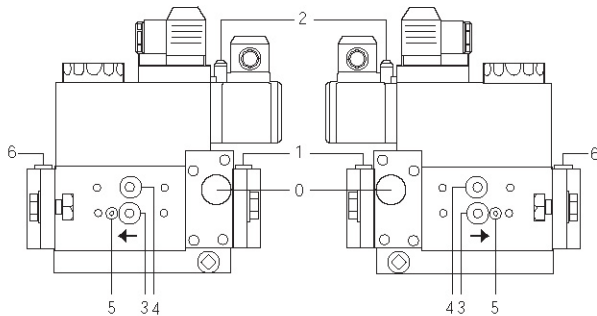
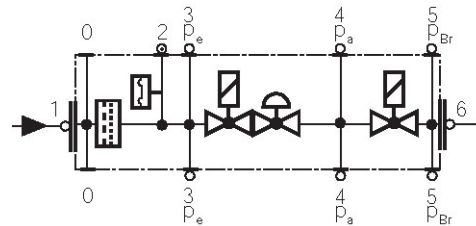

Fig. 19
Fig. 20
- Change the filter if the pressure difference between pressure connection 1 and 3 (Fig. 19-Fig. 20) is $\Delta p > 10$ mbar.
- Change the filter if the pressure difference between pressure connection 1 and 3 (Fig. 19-Fig. 20) is twice as high compared to the last check.